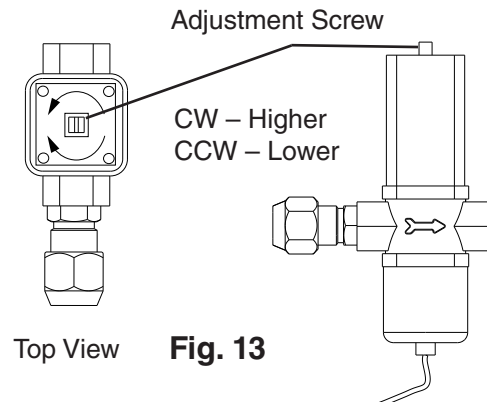

Fig. 13
- 2) 5 min. after a freeze cycle starts, confirm that the thermometer reads 104°F to 115°F (40°C to 46°C). If it does not, rotate the adjustment screw by using a flat blade screwdriver until the temperature is in the proper range. See Fig. 13. Next, check that the reference pressure is in the range indicated in the Head Pressure table in the Performance Data section. If it is not in the proper range, verify the refrigerant charge.